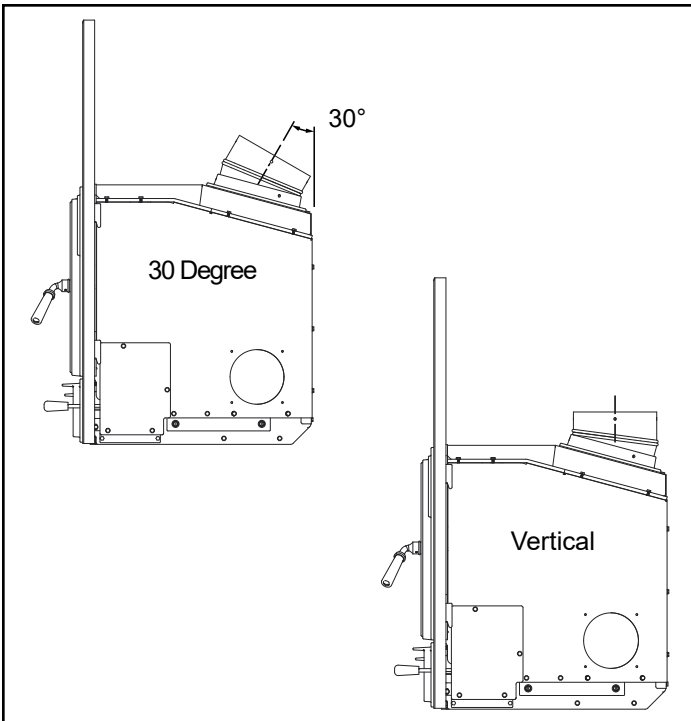

Figure 19.2
**Figure 19.2** shows a vertical installation and also how to create an optional 30° elbow installation.